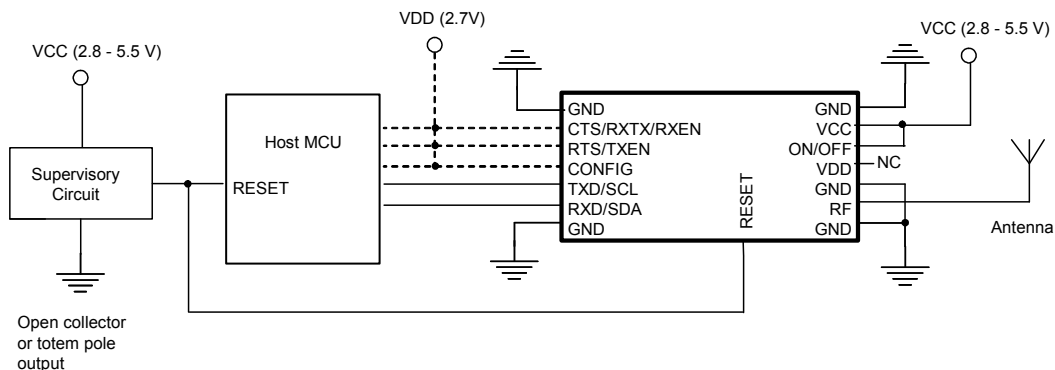

Figure 4. Reset circuit using supervisory circuit on VCC
- If the host system already has an external POR and brown-out supervisory circuit, this can also be used to control the module RESET. The supervisory circuit should be connected between VCC (or the MCU supply voltage if different) and GND, controlling RESET directly. This solution will force RESET low as long as VCC is below the threshold voltage. The RESET has an internal pull-up resistor to VDD, thus an open-drain output supervisory circuit can be used. A threshold voltage of 2.8 V or higher is recommended. See Figure 4. Supervisory circuits are suggested below.